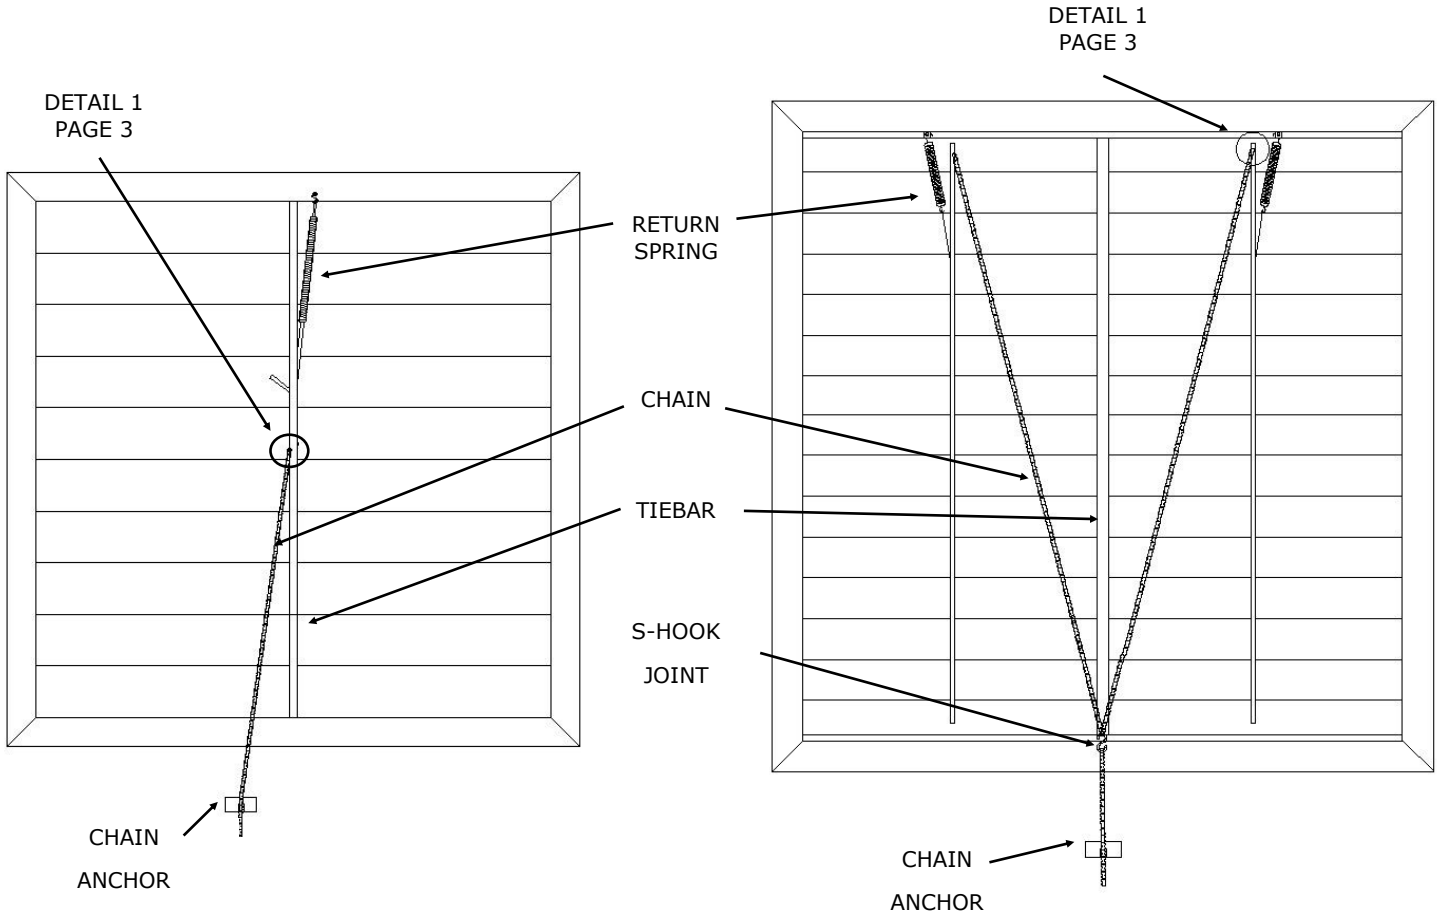

Figure 12
1) With the shutter in the closed position, attach a small S-hook to the tie bar/s as shown in **Figures 12 & 13** depending on model. **SEE DETAIL 1 PAGE 5 FOR S-HOOK ATTACHMENT.**